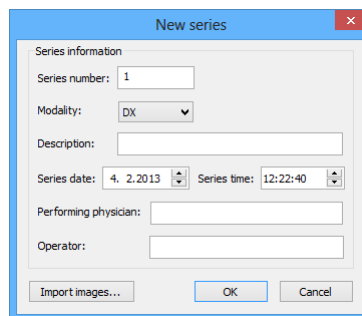

Figure 403 – New series dialog
3. Fill the information concerning the new series into the **New series** dialog (see Figure 403) and click the **OK** button.
3. Fill the information concerning the new series into the **New series** dialog (see Figure 403).